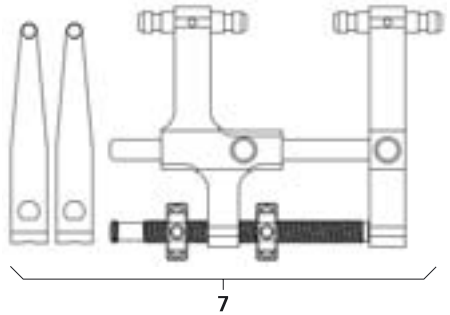

Fig. 7
- Mount distractor **7** with the distractor blades, see Fig. 7.